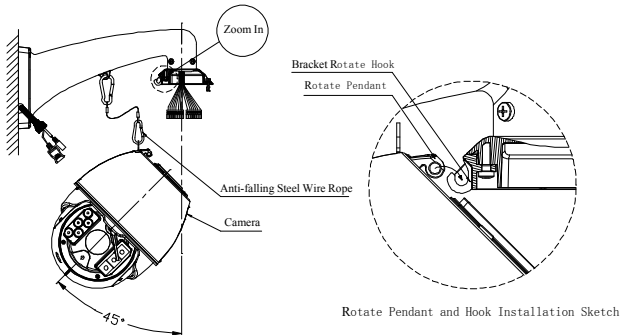
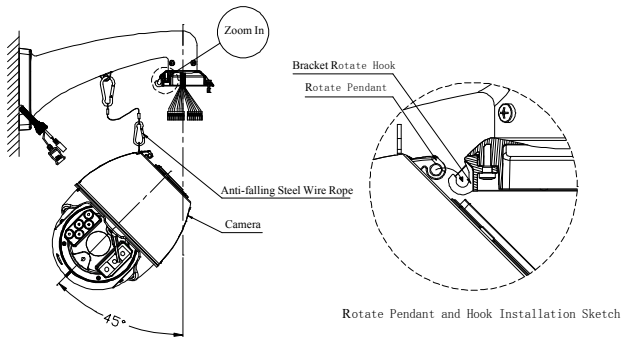

Fig 5-8 Connect installation head and dome camera
Fig 6-7 Connect IR installation head and dome camera
6. Hold the camera in both hand and in the angle of 45° as below figure, align the dome camera cover rotate pendant to bracket rotate hook, as fig 5-8.
5. Connect the camera and wall mounting bracket by Anti-falling steel wire rope, hold the camera in both hand and in the angle of 45° as fig 6-7, align the dome camera cover rotate pendant to bracket rotate hook, as fig 5-8.